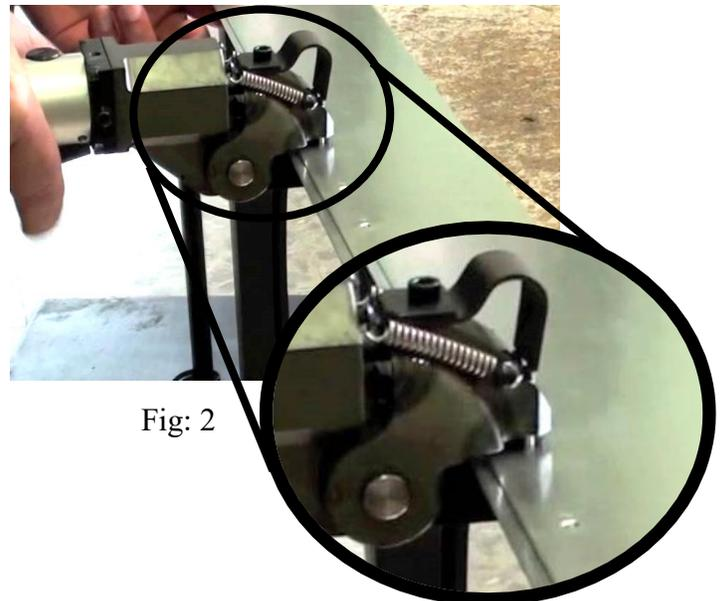

Fig: 2
- For larger assemblies that might be difficult to manipulate or orient to the press, hand held (pneumatic or hydraulic machines) can be used (See Fig. 2).